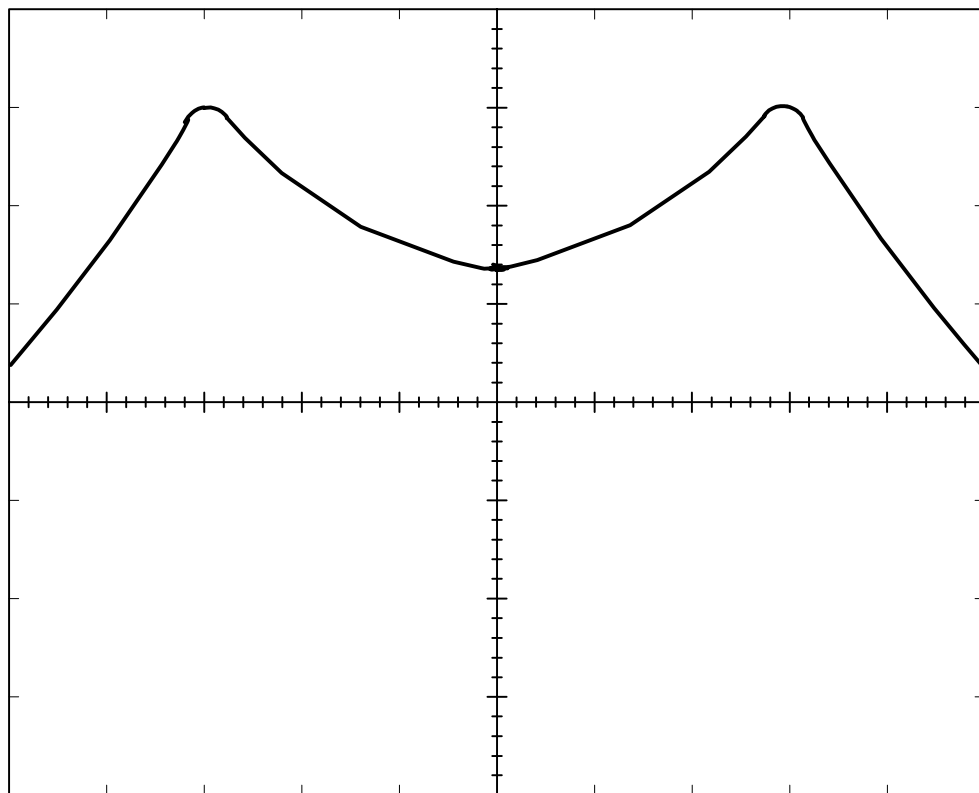

Figure 9.2
- 9.4 Adjust C10, R9 so that the two sideband peaks are symmetrical around the center frequency, see Figure 9.2.